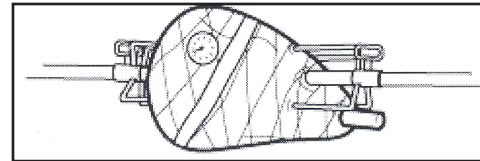

Fig. 16
**For ham or roasts:** Insert the tip of the thermometer in the center of the heaviest section of the meat. (Fig. 16)